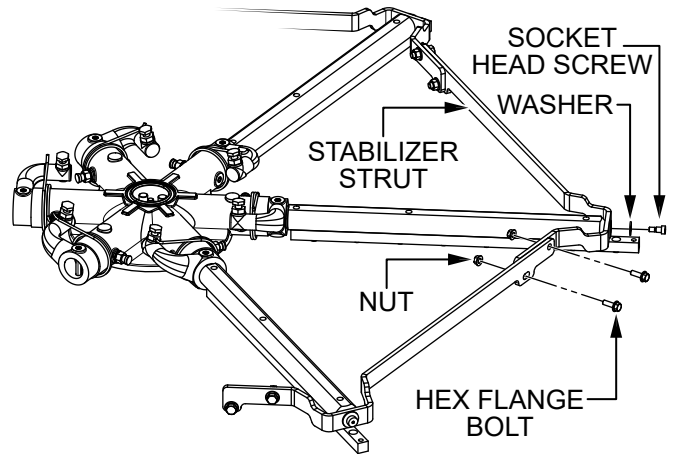

Figure 79. Stabilizer Ring Removal
1. Remove the hardware securing the stabilizer struts to the trowel arms (Figure 79). Set the struts and hardware aside.